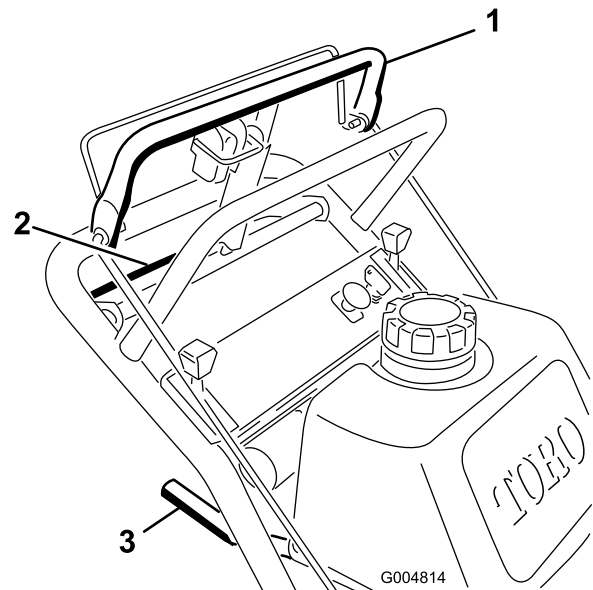
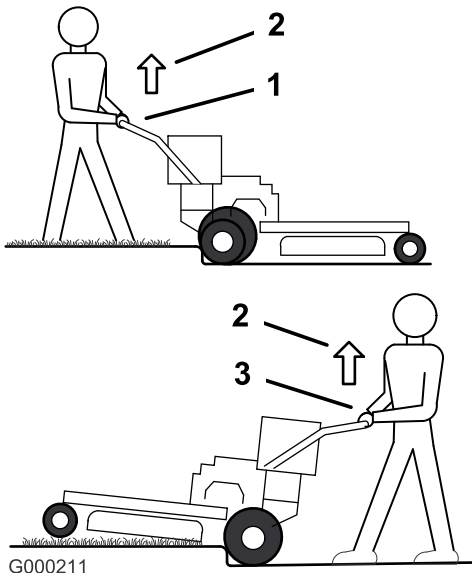

Figure 18
Figure 19
1. To go forward, move the shift lever to a forward gear (Figure 18).
3. Slowly press on the upper control bar to move forward (Figure 18).
To go straight, apply equal pressure to both ends of the upper control bar (Figure 18).
To turn, release pressure on the upper control bar side in the direction you want to turn (Figure 18).
3. Slowly squeeze the lower control bar and lower handle together to move rearward (Figure 18).
3. Drive machine until the castor wheels contact curb (Figure 19).
4. Lift the front of the machine by pushing down on the lower handle (Figure 19).
5. Drive the machine until drive wheels contact the curb (Figure 19).
6. Lower the front of the machine (Figure 19).
7. At the same time engage the lower control bar and lift up on the lower handle to drive over the curb (Figure 18 and Figure 19).
3. Drive the machine until drive wheels contact curb (Figure 19).
4. At the same time engage lower control bar and lift up on the lower handle (Figure 18 and Figure 19).